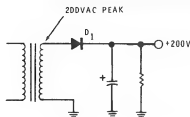

Figure 4-23
4. What is the minimum PIV rating for D_1 in Figure 4-23? _____
- Since Figure 4-23 has a capacitive filter, the PIV is twice the peak secondary voltage: $200 \text{ V} \times 2 = 400 \text{ V}$.